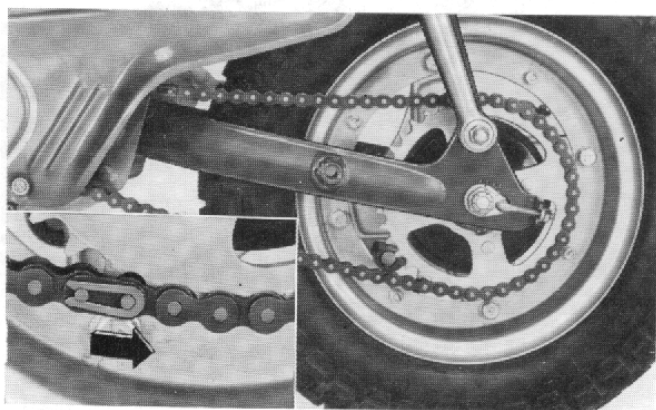

Fig. 98
- (1) The drive chain should be so connected that the closed end of the link clip should point toward the direction of the normal chain rotation.
- (2) Inspect the drive chain for wear and damages. (Fig. 98)
- (3) Whenever the drive chain has been removed or adjusted, the location of the alignment punch mark on the adjuster in respect to the marking on the rear fork must be the same on the both sides.